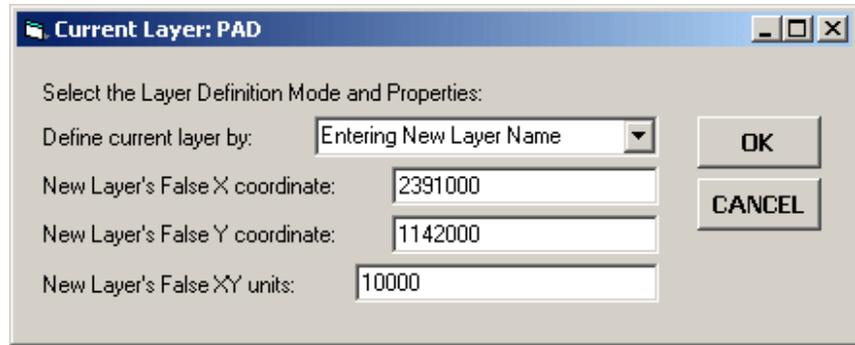

Figure 22
- list for the first parameter, see Figure 22.